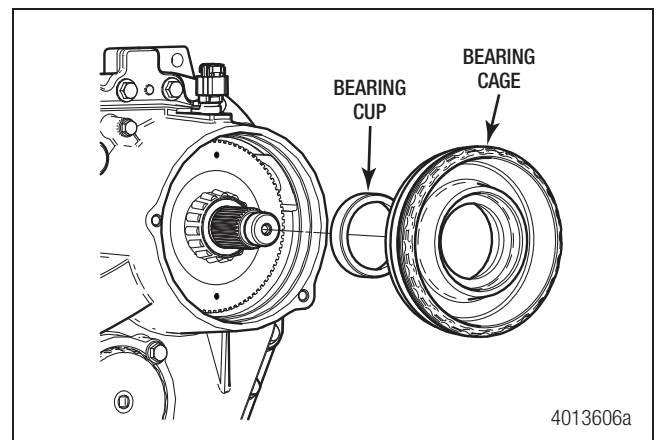

Figure 7.39
21. Start the outer bearing cage in the transfer case housing by hand, making sure not to cross thread. Then, use the special tool to continue installing the outer bearing cage further into the housing. Refer to "Tools" on page 60. Figure 7.39.